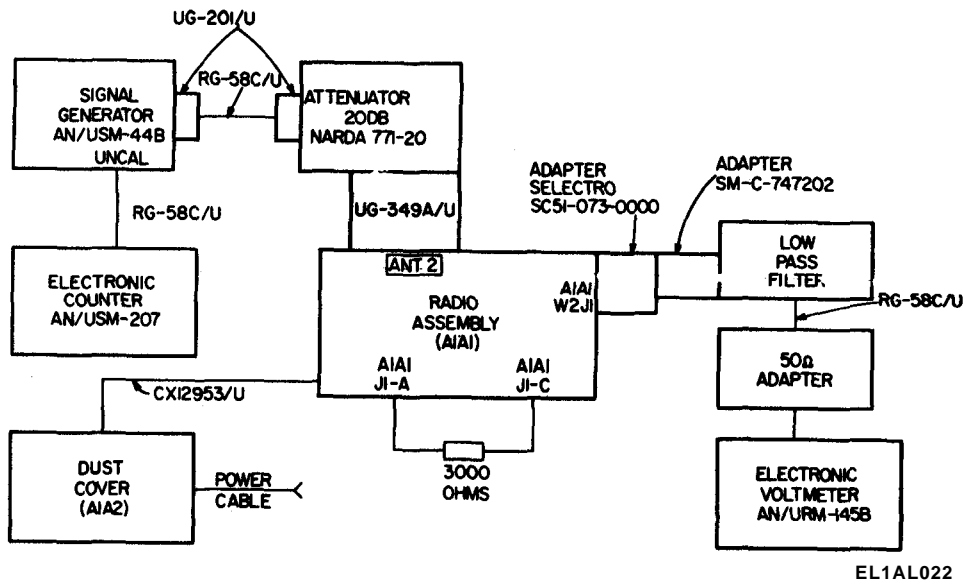

Figure 6-14. Gain test connections.
(1) Remove the receiver from the dust cover (para 6-6).
- (2) Remove IF amplifier A1A1A3 (para 6-6).
- (3) Perform the preliminary test setup (para 6-12).
- (4) Connect the test equipment as shown in figure 6-14.